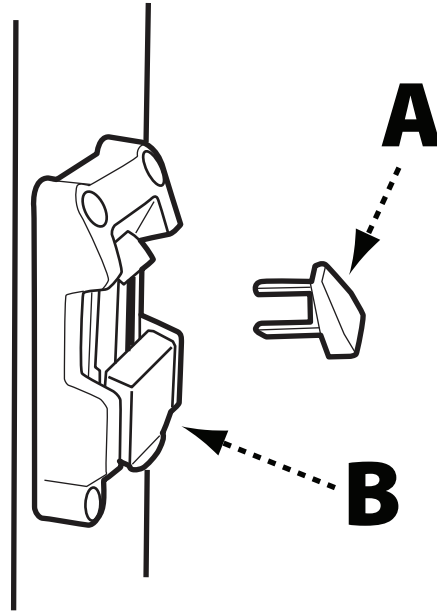

FIGURE 12
NOTE: The DELTA® 14" Steel Frame Band Saw uses a Safety Key (A), shown in Figure 12. The Safety Key must be in place in order to operate the machine. Before attempting to turn on the band saw, ensure the Safety Key is installed.
When the tool is not in use, the switch should be locked in the "OFF" position. This can be done by grasping the Safety Key (A), shown in Figure 12 above, and pulling it out of the switch. With the Safety Key removed the switch will not operate. Should the Safety